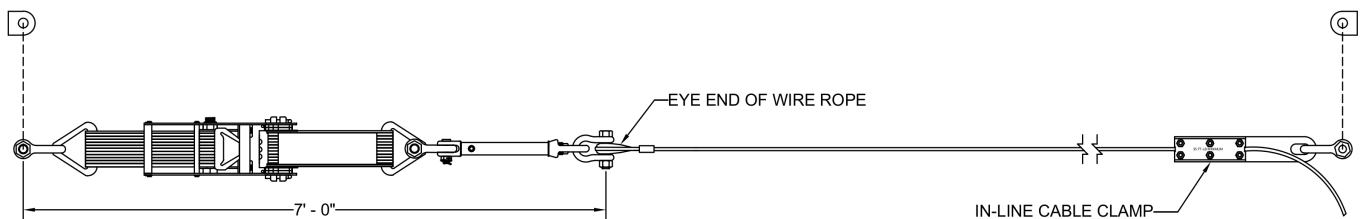

Figure 3
4. Position the eye end of the wire rope so that it is about 7-ft. (see Figure 3) away from the location of one of the end anchorage locations.